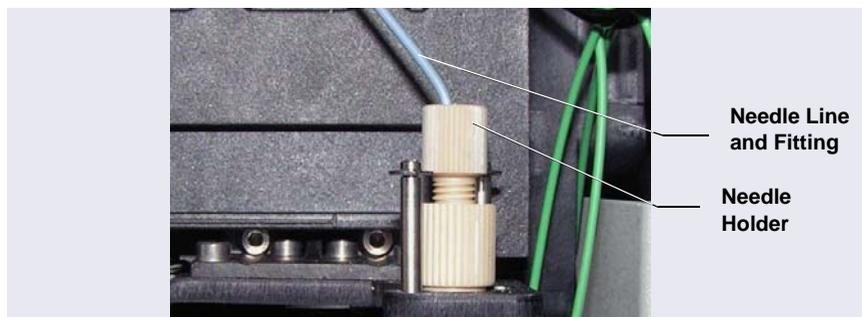

Figure D-6. Needle Line Connected to the Needle
- g. To prevent twisting of the needle, hold the needle with one hand and then tighten the fitting fingertight (see Figure D-6).